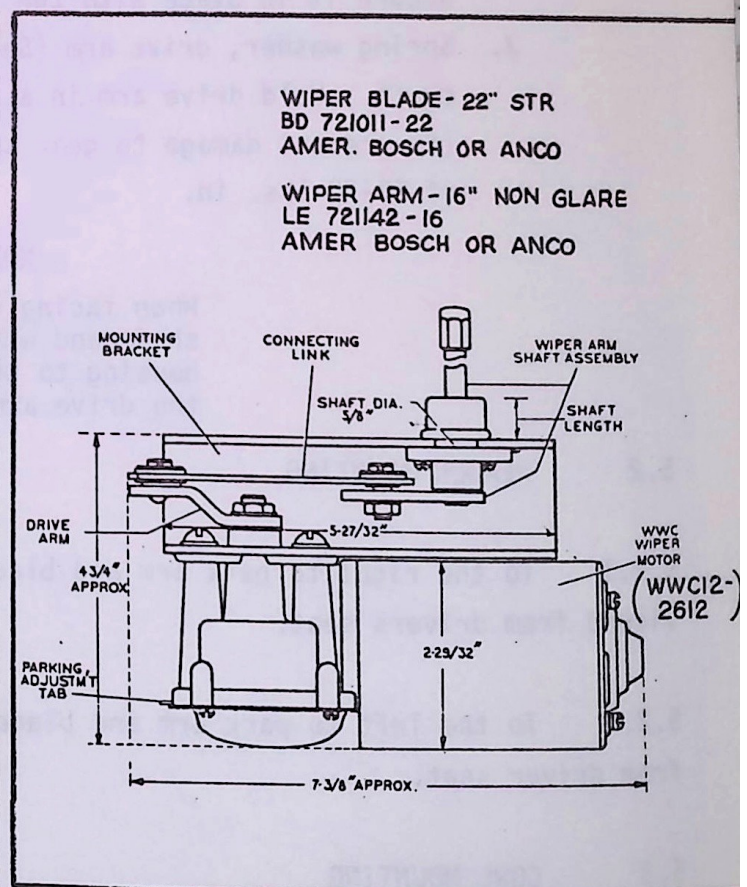

FIGURE 5-2
2. Wiper arm shaft assembly to mounting bracket (Figure 5-2) and secure it in place with the screws provided.
3. Spring washer, drive arm (See Note) and nut (Figure 5-2) to motor shaft. Hold drive arm in a vise or some other suitable fixture (to prevent damage to gear teeth) and tighten nut to a torque of 50-70 lbs. in.
5.3.5 Connecting link (Figure 5-2) to wiper arm shaft assembly and drive arm pins and secure it in place with the spacing washers and spring clips. The link must be assembled so that the bushing nearest the cut-out in the link is attached to the wiper arm shaft assembly with the cut-out section facing down.
- 5.4.1 Determine whether adequate space is available in the mounting position desired (refer to Figure 5-2 for windshield wiper dimensions).
1. Position the adjustment tab (Figure 5-2) at the center of its range of travel.
7. If the blade does not now park in the desired position, readjust by moving the parking tab (Figure 5-2). NEVER adjust the blade to park closer than 1 1/2-2" from the windshield molding.